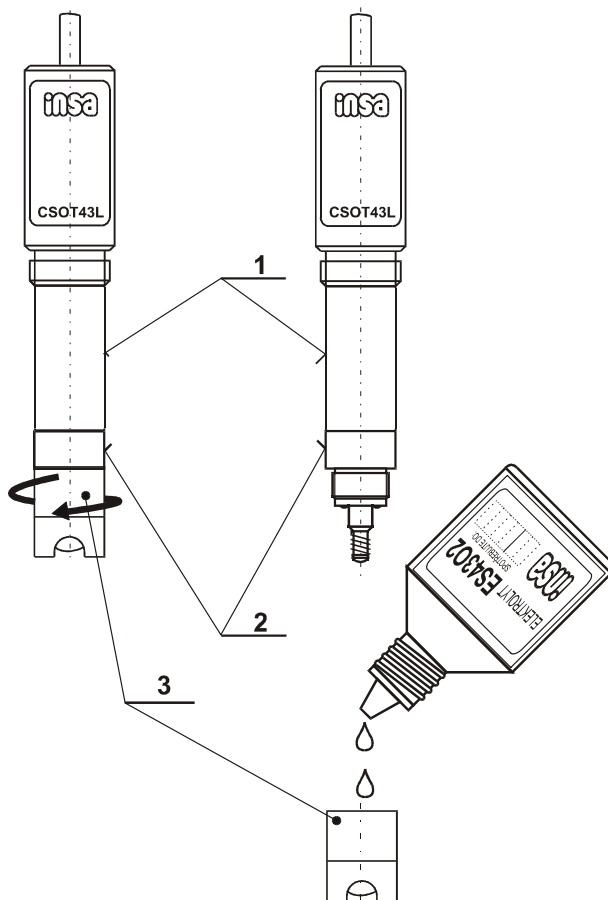

Fig. 5. Sensor CSOT 43LZS – membrane head exchange
to stabilize temperature of the sensor. The thing is that temperature of the plastic membrane and the one of the thermometer block of the sensor - Fig.5, pos.2 – should be the same during calibration. Protective sensor case serves as a calibration block.
During the measuring, the sensor must be immersed in the measured water 10 mm above the metallic block (Fig. 5, pos. 2), at least, in which the temperature sensors are placed. The sensor may be immersed in the measured water completely, **nevertheless sensor is not designed for standing immersing in water.**